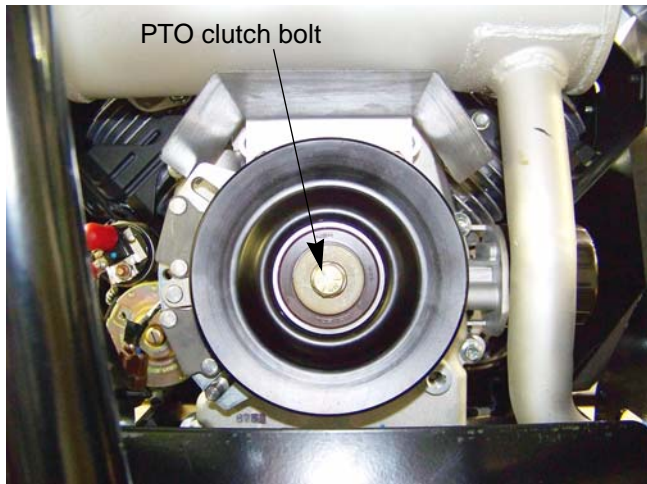

Figure 8.53
4. Remove the PTO clutch bolt using an impact wrench with a 5/8" socket. See Figure 8.53.